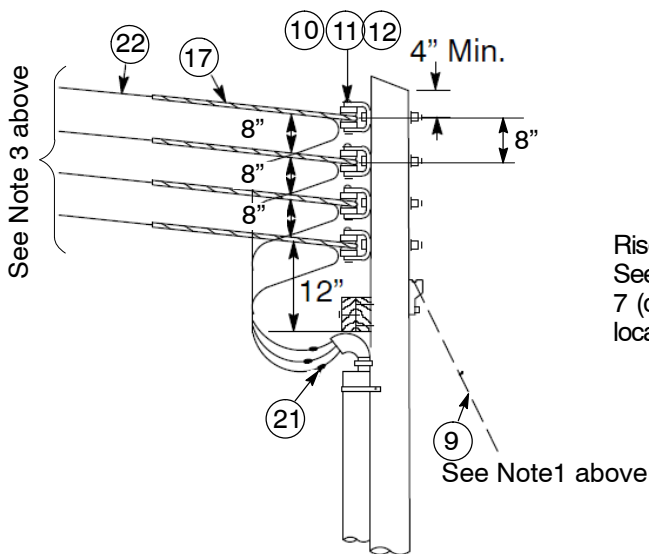

Figure 8
¹ All open wire services require vertical rack construction. See Figure 8, Page 8.
⁵ The installation of extended rack brackets is no longer allowed. Use Vertical rack construction. See Figure 8 on Page 8.
4. Revised Figure 8 on Page 8.